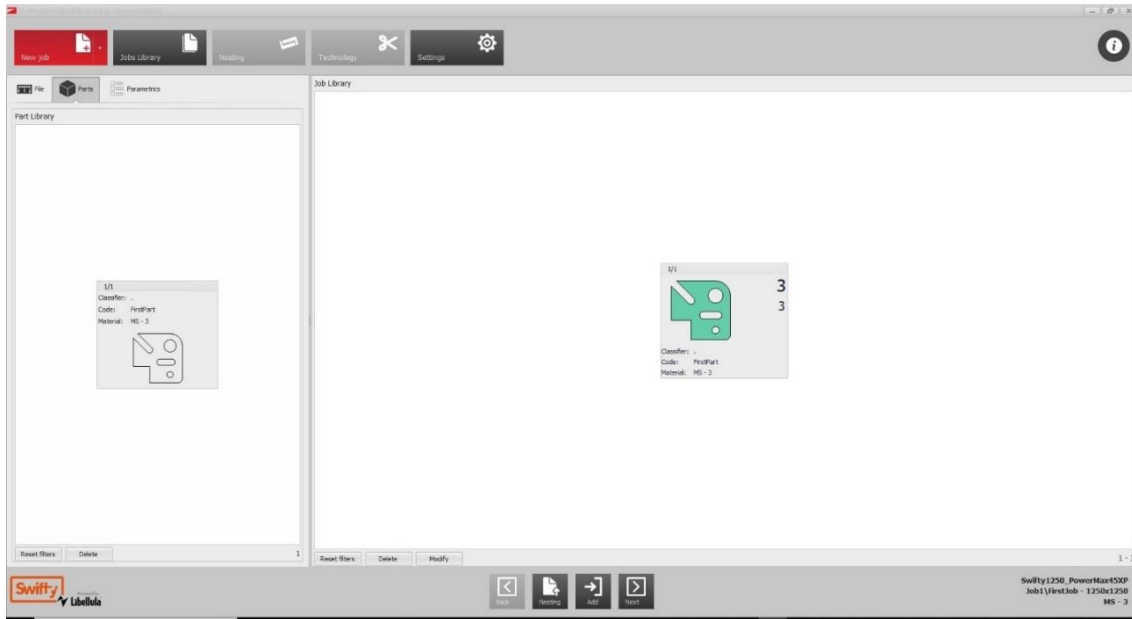

Fig 53 Job Library and Part Library
11. The drawing will now be added to the Job Library (current job) and the Part Library (which can be recalled later). Fig 53 shows the Parts tab of the New Job screen showing the Part Library and the Job Library panes.